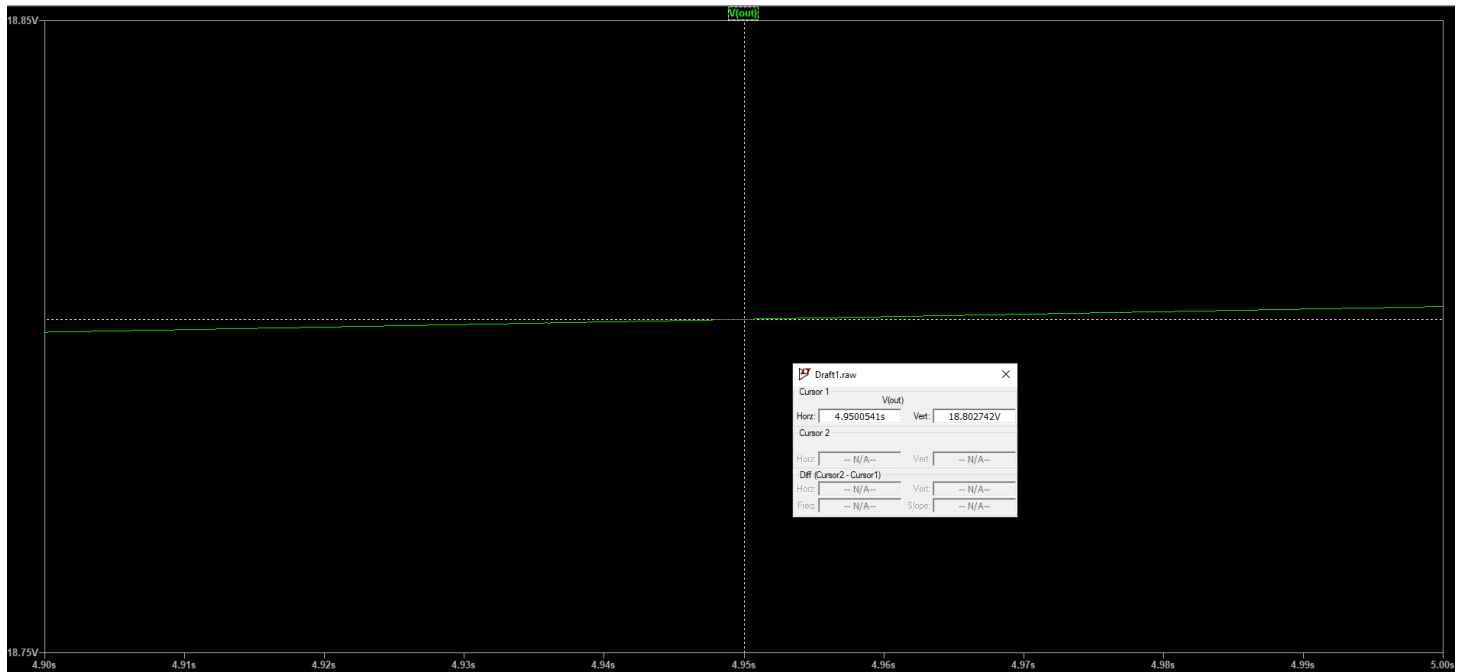

Figure 27: Zoomed Output Without Load
- Notice that, the capacitors are still charging at the moment we test in the figure 27 but let us compare the effect of improvement with before.
- Now take a look to the figure 27 which shows the output after the improvement. In the figure, at the time 4.95 s we have output of **18.802742 volts**.